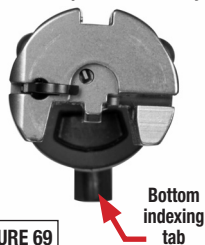

FIGURE 69
- Slide the bolt assembly with the bolt oriented as shown (FIGURE 69) into the receiver tube (FIGURE 70).